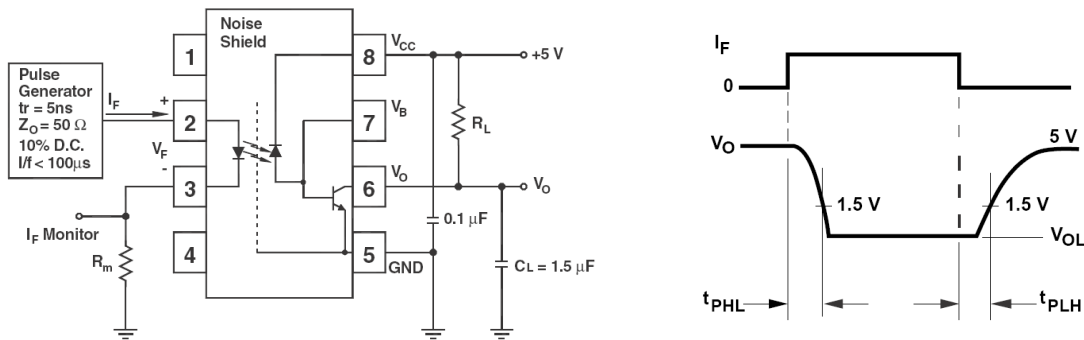

Figure 1: Single Channel Test Circuit for  $t_{PHL}$  and  $t_{PLH}$
1. A  $0.1\mu\text{F}$  or bigger bypass capacitor for  $V_{CC}$  is needed as shown in Fig.1